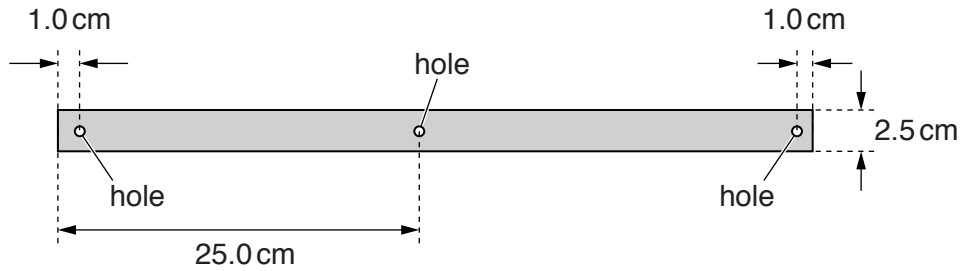

Fig. 1.2 (not to scale)
- 2 Drill three holes in the wooden strip as shown in Fig. 1.2. Each hole should be big enough for the wooden strip to swing freely when suspended by the nail through the hole.